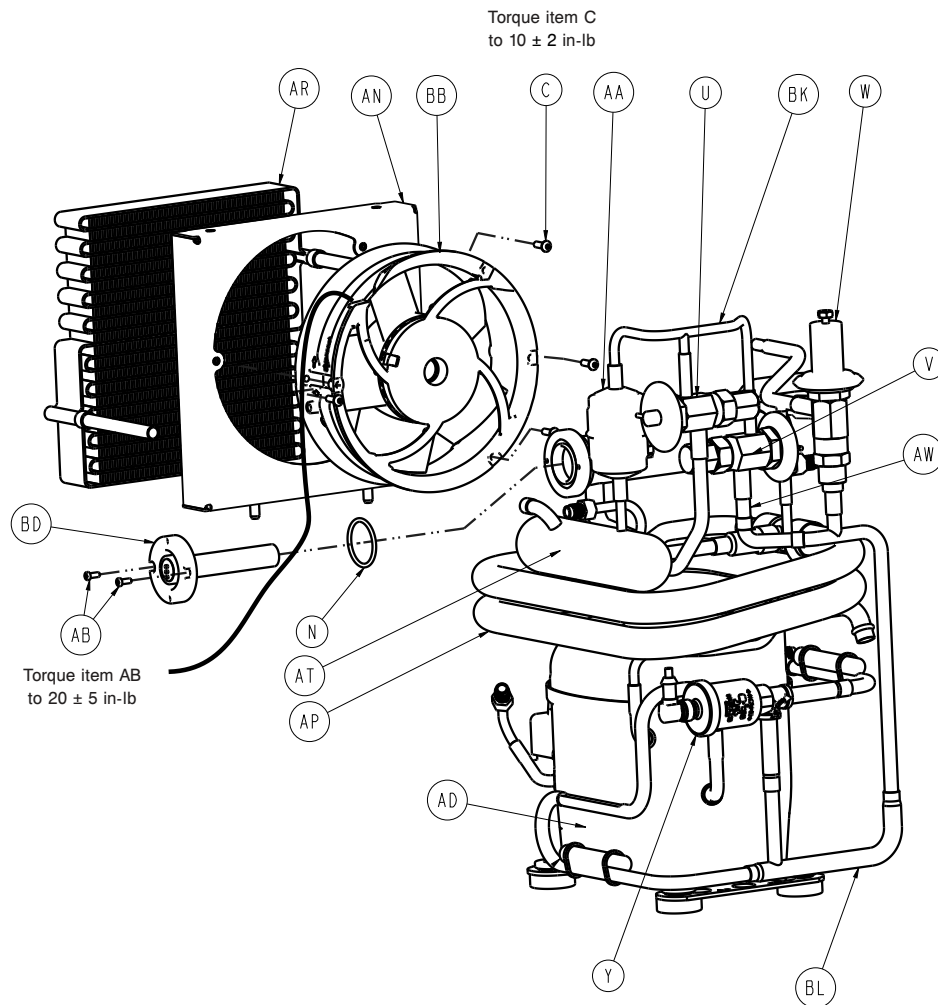

Figure 25 – Heater well
23. Using a T10 Torx driver, remove the two screws (AB) that secure the heater (BD) to the heater well assembly (Figure 25). Save the screws.